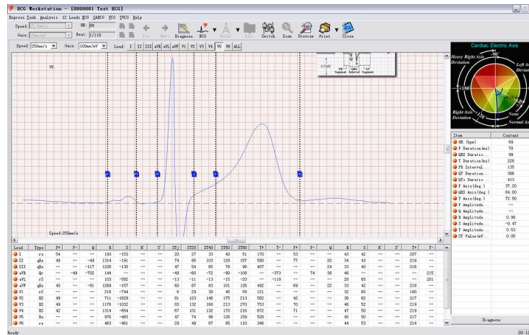

Figure 71
- **"Diagnose"** (As Figure 71): Turn to diagnosis interface. At first, it will enter the wave superimposition interface.